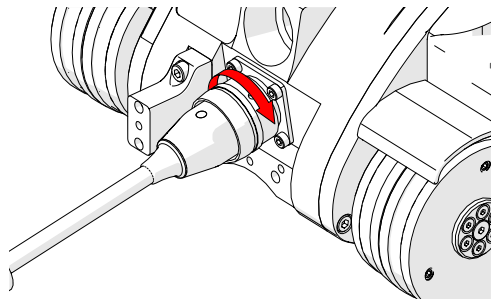

Fig. 71 - Align with crawler's umbilical mount
2. Twist the umbilical's sleeve clockwise, locking the umbilical in place (Fig. 71).